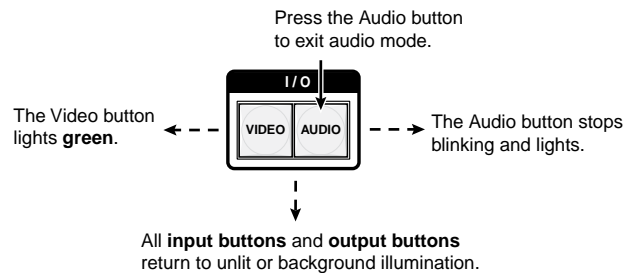

Figure 3-57 — Deselect Audio mode
Press and release the View (▼) button several more times (figure 3-57) to decrease the input audio level by 1 dB per button press. Note the output button indication changes that occur each time the View (▼) button is pressed.
5. Press and release the Audio button (figure 3-57).